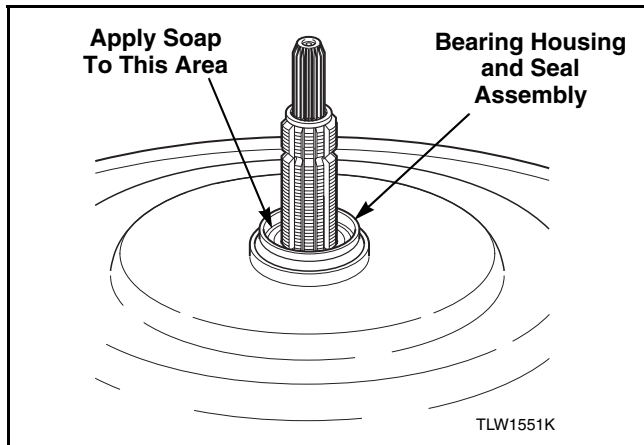

Figure 54
- Apply a small amount of liquid soap or soapy water to the vertical wall of the bearing housing and seal assembly above bearing. Refer to Figure 54.
IMPORTANT: Do not allow any lubricants to come in contact with surfaces of the outer tub that contact the bearing housing and seal assembly. Refer to Figure 54.